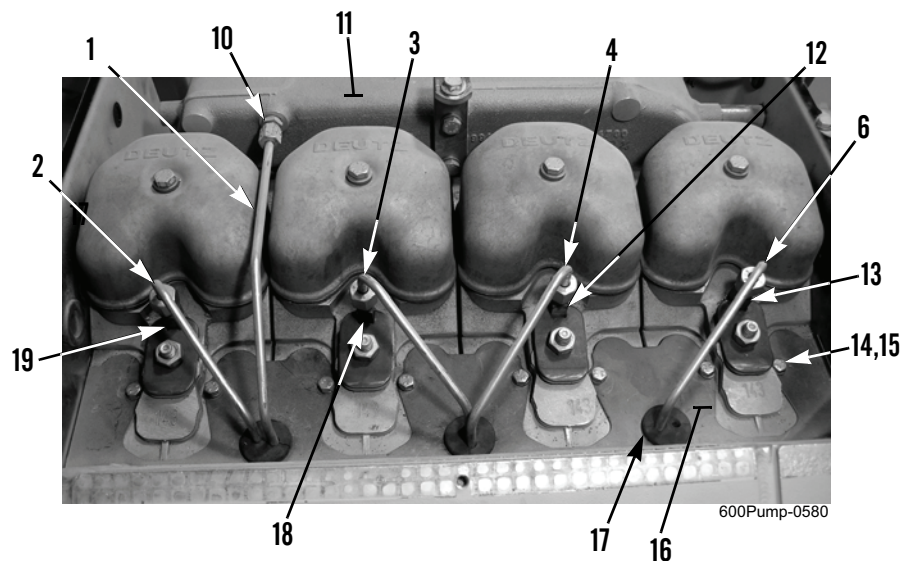

Figure 4. Injector Lines, Fuel Injectors, and Cylinder Heads.
3. If removed, install air baffle (Figure 4, Item 16) on cylinder heads with eight new lockwashers (Figure 4, Item 15) and bolts (Figure 4, Item 14).
4. Install three grommets (Figure 4, Item 17) on air baffle (Figure 4, Item 16).
5. Connect injector line (Figure 4, Item 1) to fitting (Figure 4, Item 10) at intake manifold (Figure 4, Item 11).
6. Connect injector lines (Figure 4, Items 2, 3, 4, and 6) to fuel injectors (Figure 4, Items 19, 18, 12, and 13). Tighten lines to 16 to 21 lb-ft (22 to 28 Nm).